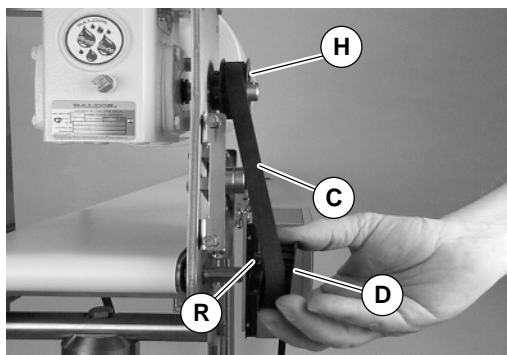

Figure 18
- Remove timing belt (C).
**NOTE:** If timing belt does not slide over pulley flange, loosen driven pulley set screws (R of Figure 18) and remove pulley with belt. For re-installation, see steps 5 and 6 on page 7.